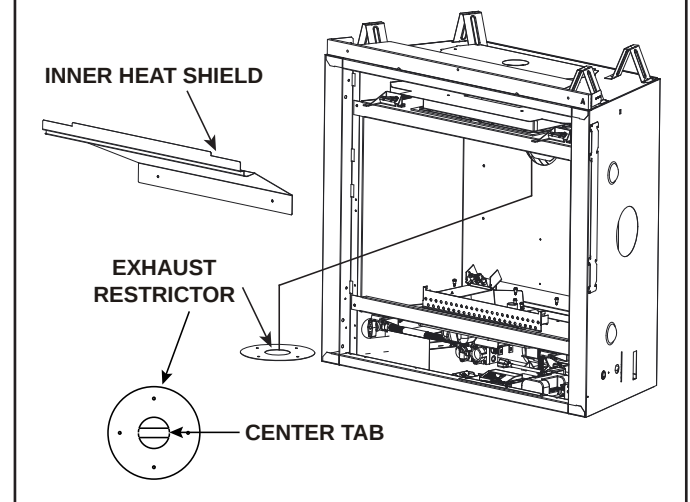

Figure 4.13 Exhaust Restrictor Installation
Note: Remove center tab in exhaust restrictor for vent configuration with less than 20 ft. (6.0 m) of vertical. See Figure 4.13.
1. Install the exhaust restrictor over the center of the exhaust outlet in the firebox. See Figure 4.13.